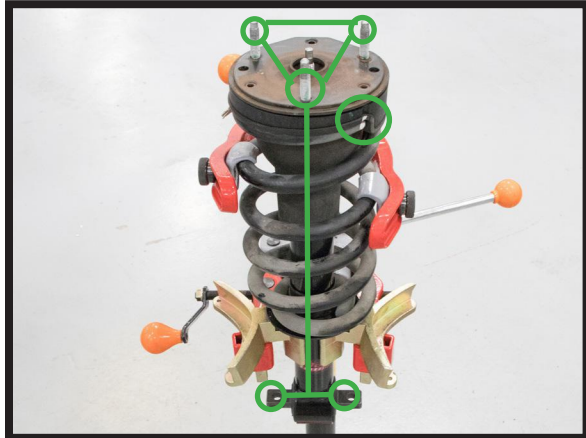

FIGURE 34
7. PROPERLY ALIGN THE STRUT BEFORE INSTALLING IT ON THE VEHICLE, MAKING SURE THE BOLT MOUNTS ARE FACING DOWNWARD AS SHOWN BELOW. (FIGURES 34, 35)